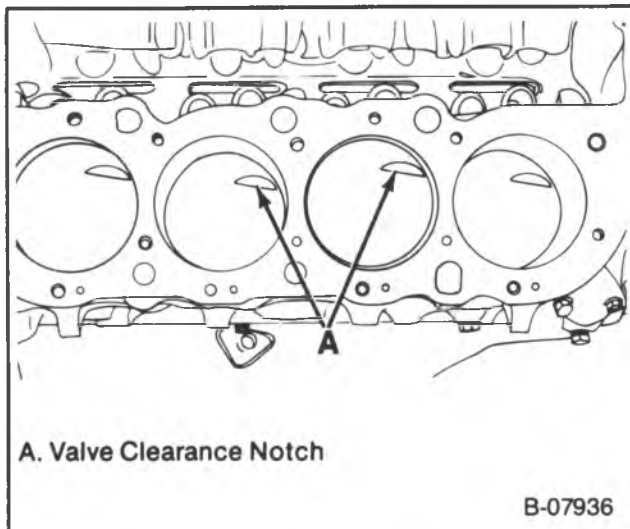

Figure 30 — Pistons Installed
- The piston must be installed so that the valve clearance notches are towards the center of the engine (figure 30).